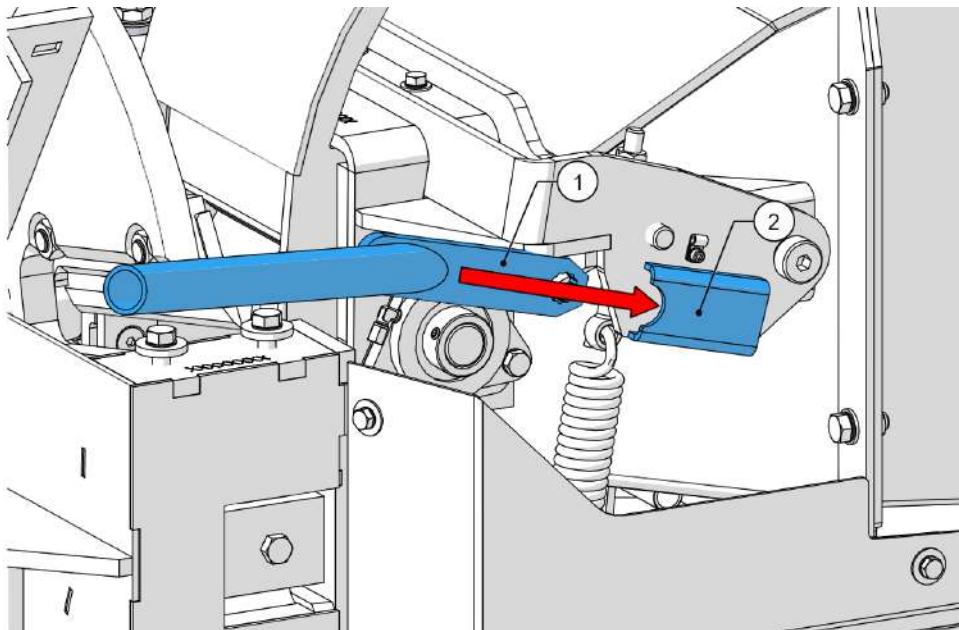

Figure 45 - Feed roller spring tension
11. Put the top feed roller lifting tool (, Figure 45) into the slot (, Figure 45).